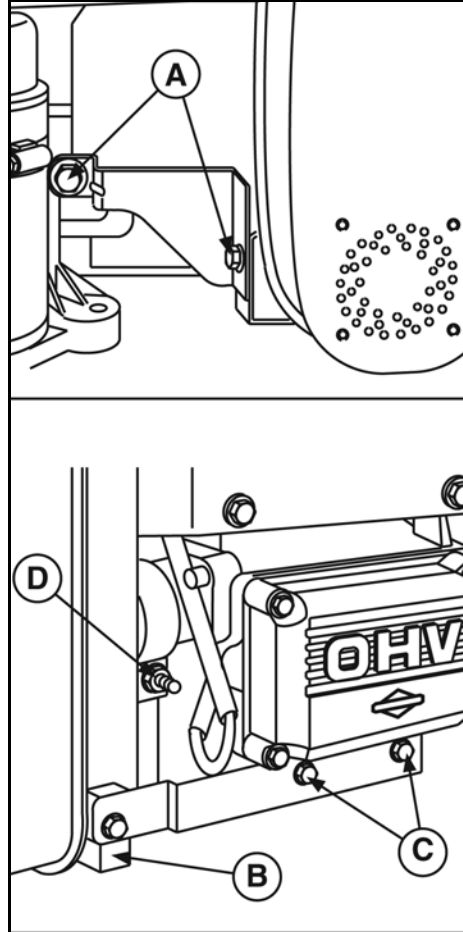

Figure 24
1. Remove muffler brace screws (A, B, C, Figure 24) and supports.
2. Loosen muffler clamp (D) and slide muffler off adapter.